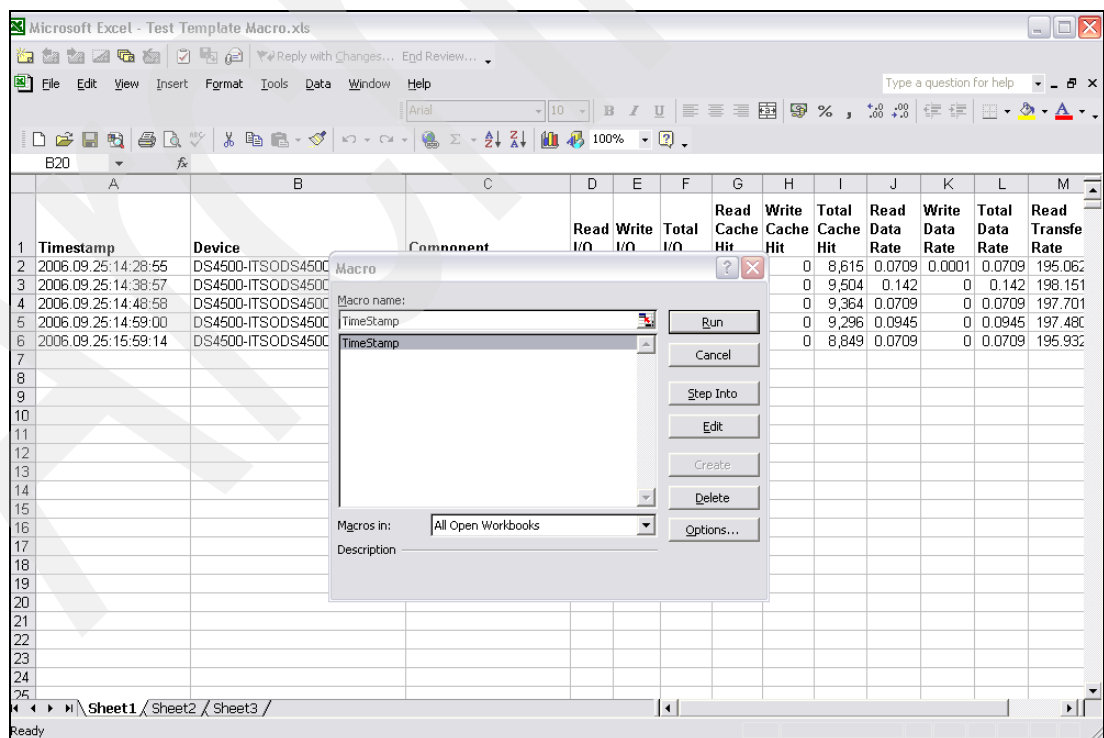

Figure 6-69 Select the macro to run
2. Select the macro that you want to run. In this case, we select **Timestamp** and then click **Run** (see Figure 6-69).